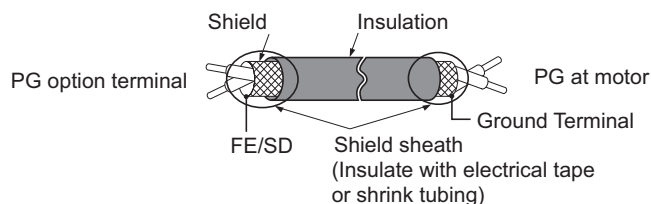

Figure 8.6 Preparing Ends of Shielded Cable
- There are two screw holes on the drive for use as ground terminals (I). When connecting three options, two ground wires will need to share the same drive ground terminal.
- Prepare and connect the wire ends as shown in Figure 8.6 and Figure 8.7. Refer to Wire Gauges, Tightening Torque, and Crimp Terminals on page 349 to confirm that the proper tightening torque is applied to each terminal. Take particular precaution to ensure that each wire is properly connected and wire insulation is not accidentally pinched into electrical terminals.